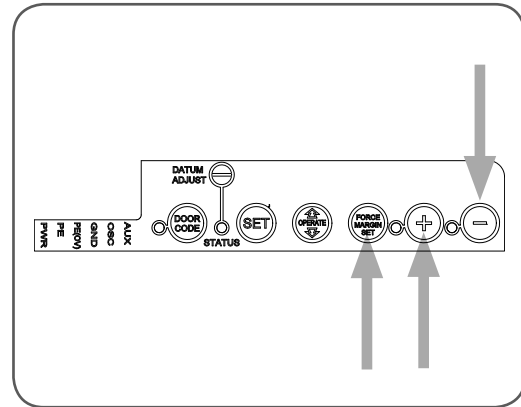

fig 35
- Hold down FORCE MARGIN SET button (Fig. 35)
- While holding the FORCE MARGIN SET button, press the PLUS (+) button. Each press increases the force margin (Fig. 35).
- While holding the FORCE MARGIN SET button, press the MINUS (-) button. Each press decreases the force margin (Fig. 35).